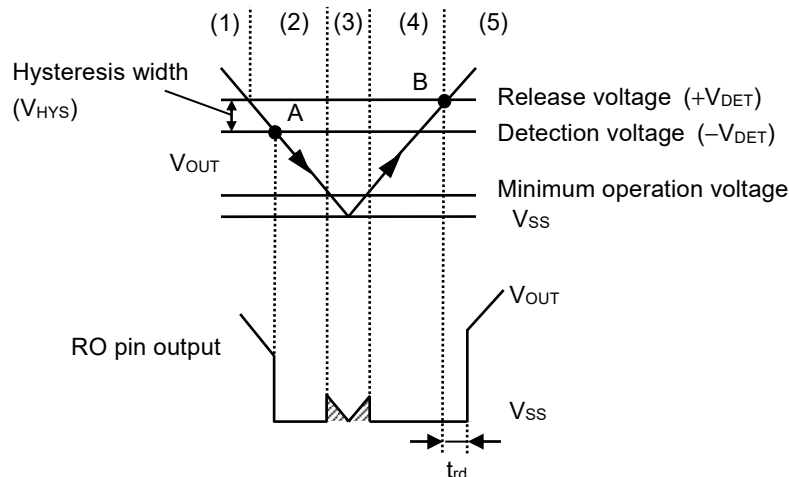

Figure 38 Timing Chart of Detector Block
- (1) When the output voltage (V_{OUT}) of the regulator is release voltage ($+V_{DET}$) of the detector or higher, the Nch transistor (N1 and N2) are turned off and "H" is output to the RO pin. Since the Pch transistor (P1) is turned on, the input voltage to the comparator (C1) is $\frac{R_B \cdot V_{OUT}}{R_A + R_B}$.
- (2) Even if V_{OUT} decreases to $+V_{DET}$ or lower, "H" is output to the RO pin when V_{OUT} is the detection voltage ($-V_{DET}$) or higher. When V_{OUT} decreases to $-V_{DET}$ (point A in **Figure 38**) or lower, N1 which is controlled by C1 is turned on, and C_{DLY} is discharged. At the same time, N2, which is controlled by the delay circuit, is turned on, and "L" is output to the RO pin. At this time, P1 is turned off, and the input voltage to C1 is $\frac{R_B \cdot V_{OUT}}{R_A + R_B + R_C}$.
- (3) If V_{OUT} further decreases to the IC's minimum operation voltage or lower, the RO pin output becomes uncertain. If the RO pin is pulled up, "H" is output.
- (4) When V_{OUT} increases to the IC's minimum operation voltage or higher, "L" is output to the RO pin. Moreover, even if V_{OUT} exceeds $-V_{DET}$, the output is "L" when V_{OUT} is lower than $+V_{DET}$.
- (5) When V_{OUT} increases to $+V_{DET}$ (point B in **Figure 38**) or higher, N1 is turned off and C_{DLY} is charged. When V_{DLY} increases to the threshold voltage (1.25 V typ.), N2, which is controlled by a delay circuit, is turned off and "H" is output to the RO pin.